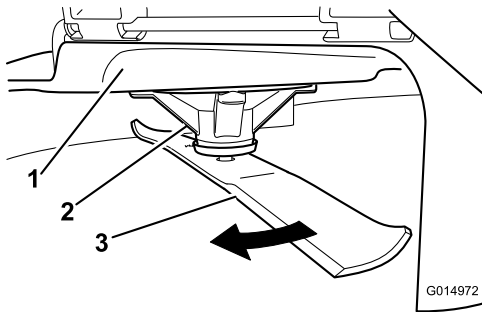

Figure 79
2. While wearing thickly padded gloves, or other adequate hand protection, slowly rotate the blade into a position that allows you to measure the distance between the cutting edge and the level surface the machine is on (Figure 79).